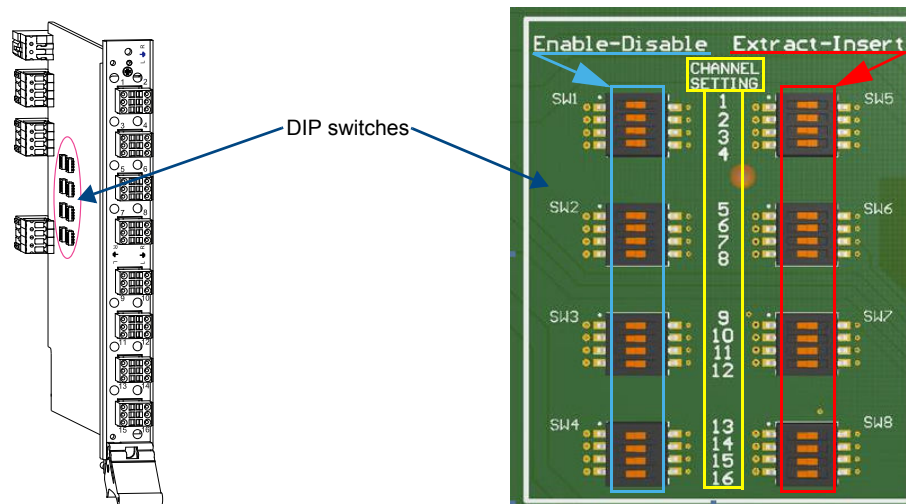

FIG. 75 Flip DIP switches to change settings
Each board has two DIP switches per AIE connector with the corresponding AIE connector number displayed vertically between the switches (labeled “Channel Setting” – see FIG. 75 below).
- Located on the left (see blue rectangle in FIG. 75).
- Located on the right (see red rectangle in FIG. 75).